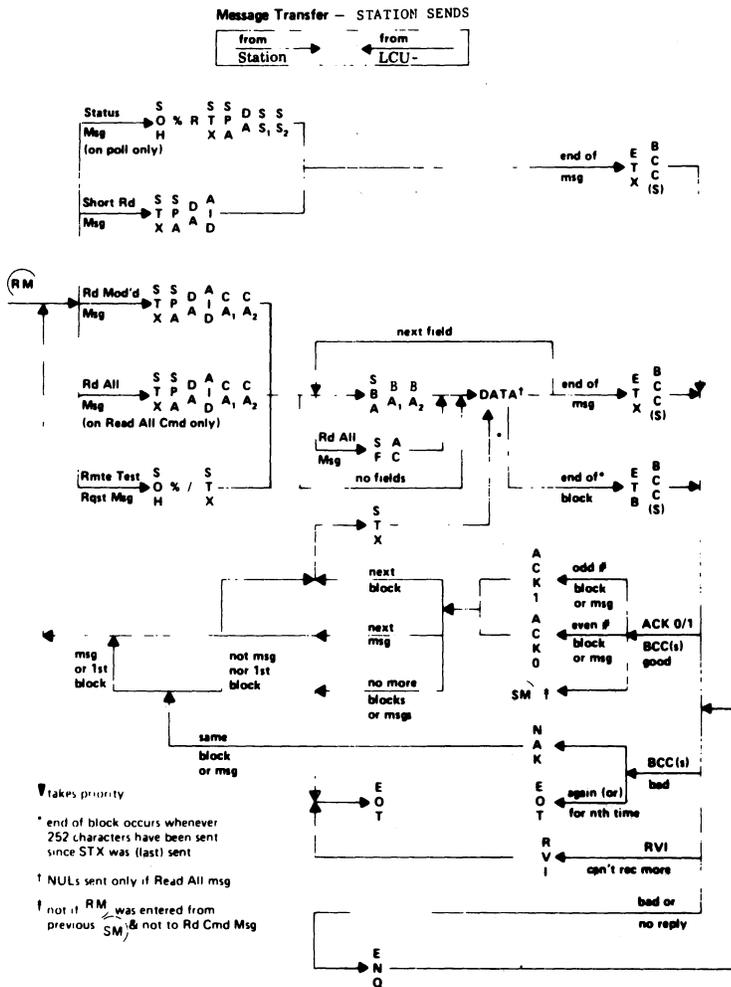

Fig. 10—System Flow Diagram (Contd)
8.02 Part 8 describes binary synchronous protocol for private line. Figs. 10 through 12 show the typical information flow. Charts 1 through 14 show more detailed operation.
8.03 Figs. 10, 11, and 12 show both the communications capabilities and the character sequences (SYNs and PADs are not shown) for polling and selection for most message formats and replies. System operation is divided into the following categories: